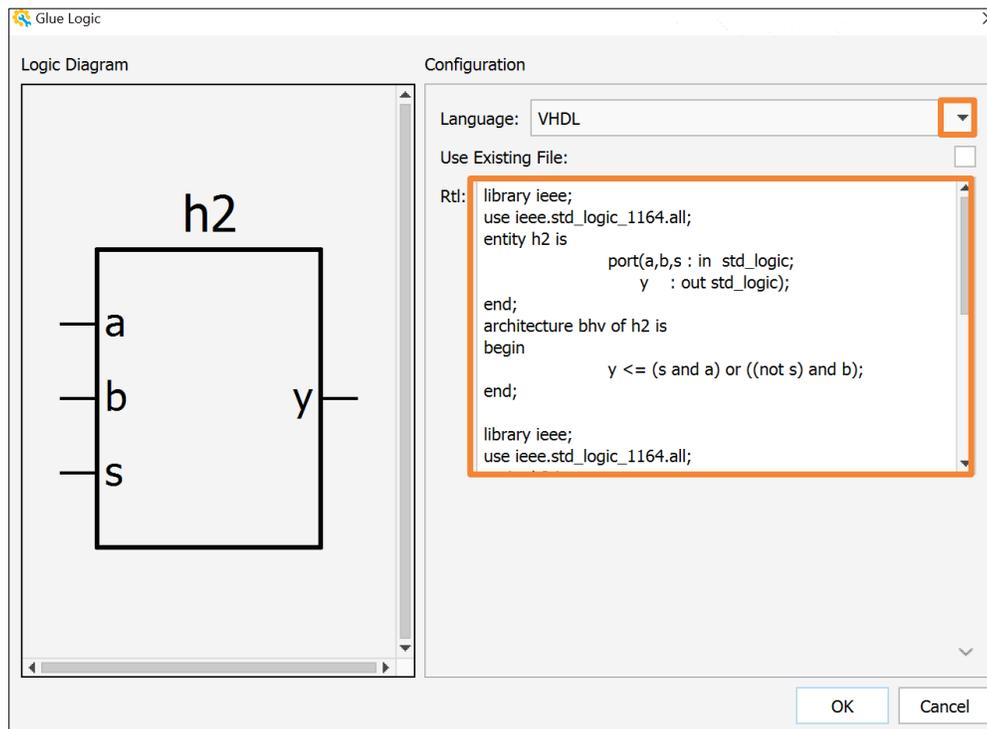

Figure 2.53. Glue Logic Wizard for RTL Module
1. From the IP Catalog, select the RTL module. Double-click the RTL module or drag and drop the RTL module to the Schematic view. A Glue Logic wizard pops up (Figure 2.53). Glue Logic supports both Verilog HDL and VHDL. You can use the drop-down menu to choose a desired language.
2. You can edit your own RTL module in the **RTL** area by entering the RTL module function (Figure 2.53).